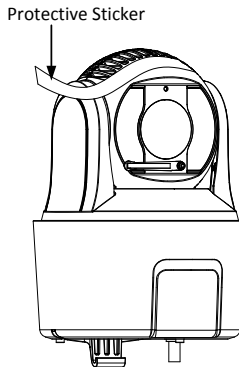

Figure 2-39 Remove Protective Sticker
1. Remove the protective sticker as shown in Figure 2-39.